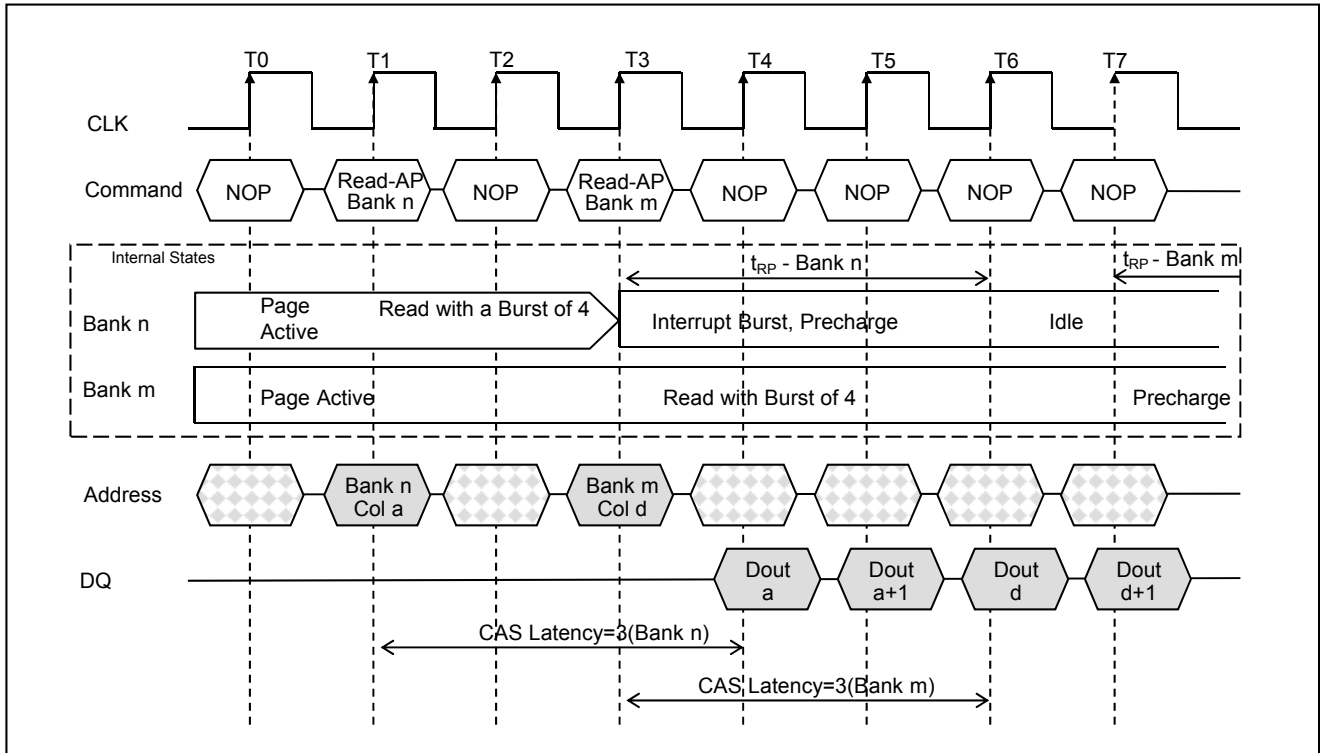

Figure 25. Read with Auto Precharge Interrupted by a Read(CAS Latency =3)
1. Interrupted by a Read(with or without auto precharge): A read to bank m will interrupt a Read on bank n, CAS latency later. The precharge to bank n will begin when the Read to bank m is registered. (Figure 25. )